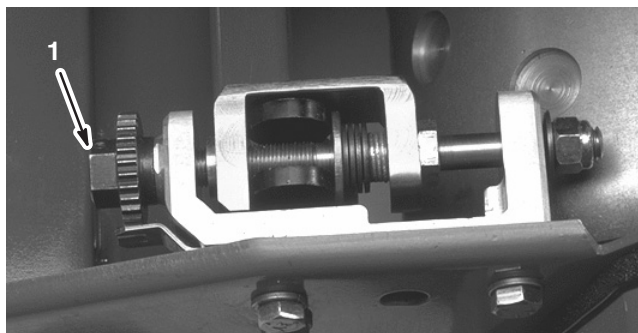
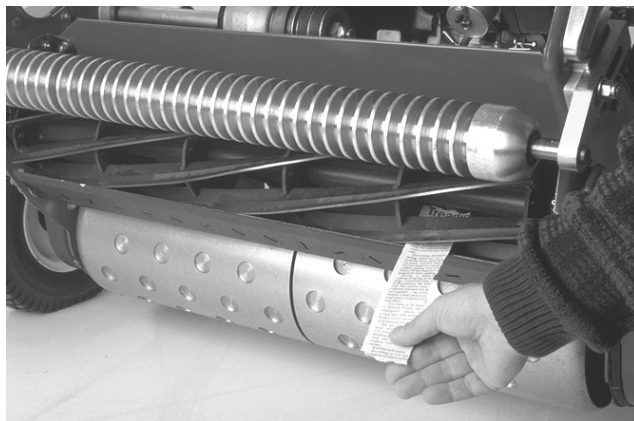

Figure 10
Figure 12
2. Ensure that the reel contact is removed by turning the bedbar adjusting screws counterclockwise (Fig. 10 or 11).
4. On one end of the front side of the reel, insert a long strip of newspaper between the reel and bedknife (Fig. 12). While slowly rotating the reel forward, turn the bedbar adjusting screw clockwise (on the same end of reel, one click at a time, until the paper is pinched lightly, when inserted from the front, parallel to the bedknife, which results in a slight drag when paper is pulled (Fig. 10 or 11).
6. After the adjustment is accomplished, check to see if the reel can pinch paper when inserted from the front and cut paper when inserted at a right angle to the bedknife (Fig. 12). It should be possible to cut paper with minimum contact between the bedknife and the reel blades. Should excessive reel drag be evident (more than 7 in.-lb. (0.79 N·m)), either backlap or grind the cutting unit to achieve the sharp edges needed for precision cutting; refer to the Toro reel sharpening manual.